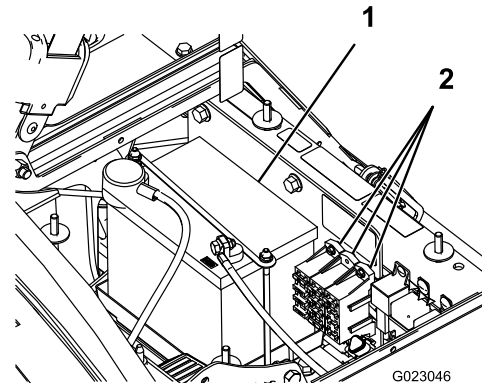

Figure 49
There are 2 fuse blocks and 1 empty slot in the electrical system. They are located beneath the seat (Figure 49).
2. The battery is located on the right side of the machine behind the pump (Figure 49).
5. Remove the battery retainer and fasteners (Figure 49).
2. Install the battery retainer and secure it with the fasteners you removed previously (Figure 49).
4. Install the battery cover and secure it with the 2 knobs (Figure 49).
1. Loosen the knobs on the sides of the battery box and remove the battery cover (Figure 49).